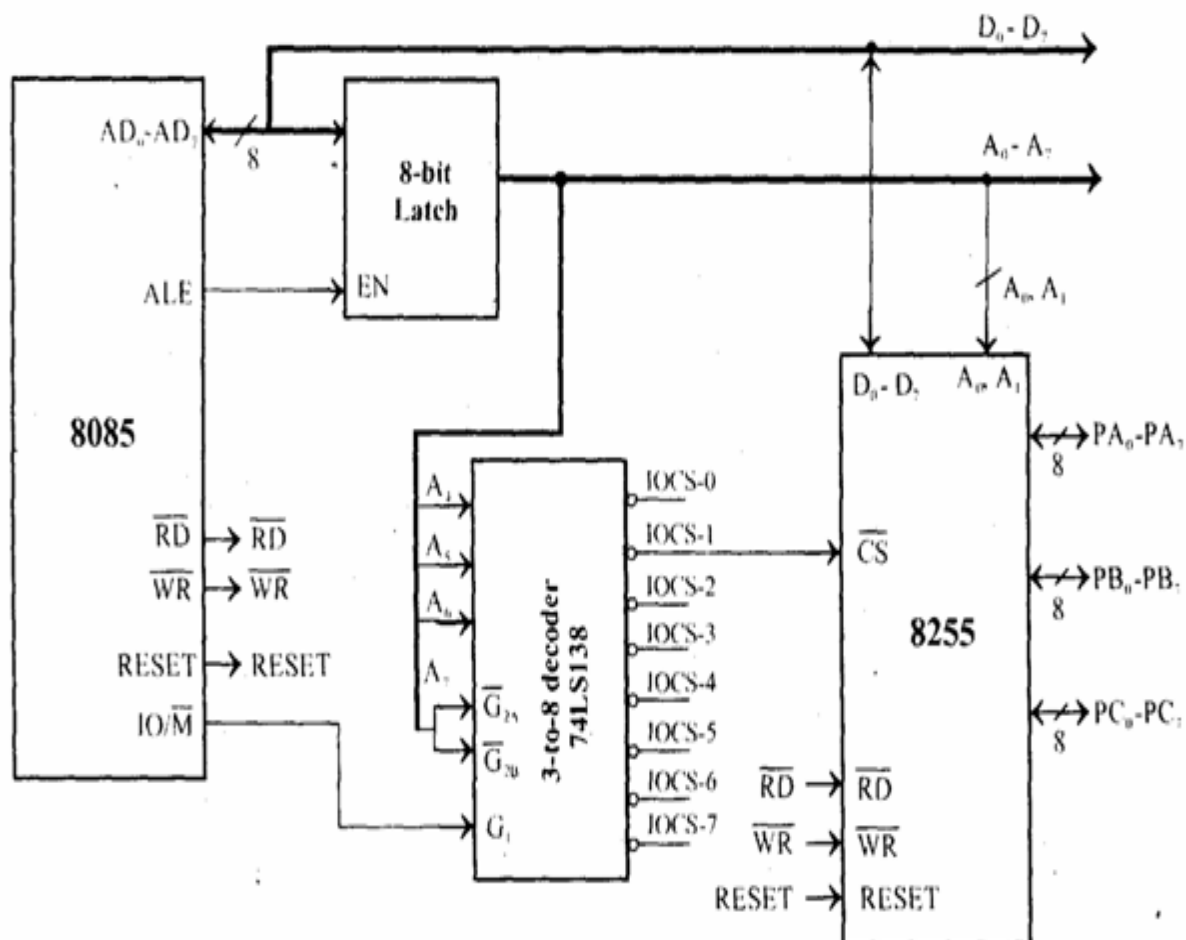

Fig 6. Interfacing 8255 with 8085 processor
- The address lines A4, A5 and A6 are decoded to generate eight chip select signals (IOCS-0 to IOCS-7) and in this, the chip select IOCS- 1 is used to select 8255 as shown in Figure 6.